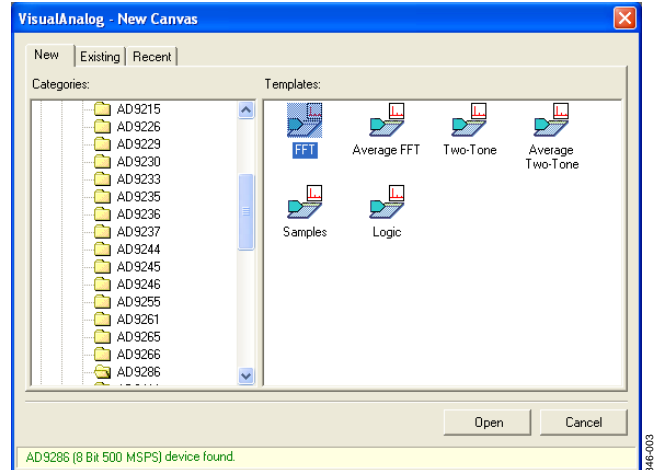

Figure 3. VisualAnalog, New Canvas Window
1. Open VisualAnalog on the connected PC. The appropriate part type should be listed in the status bar of the **VisualAnalog – New Canvas** window. Select the template that corresponds to the type of testing to be performed (see Figure 3).